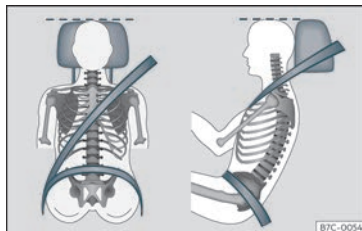

Fig. 2 Correct belt web and headrest positions
- Adjust the headrest so that its upper edge is at the same level as the top of your head, or as close as possible to the same level as the top of your head and under no circumstances below eye level. Keep the back of your neck as close as possible to the headrest »» **Fig. 2.**